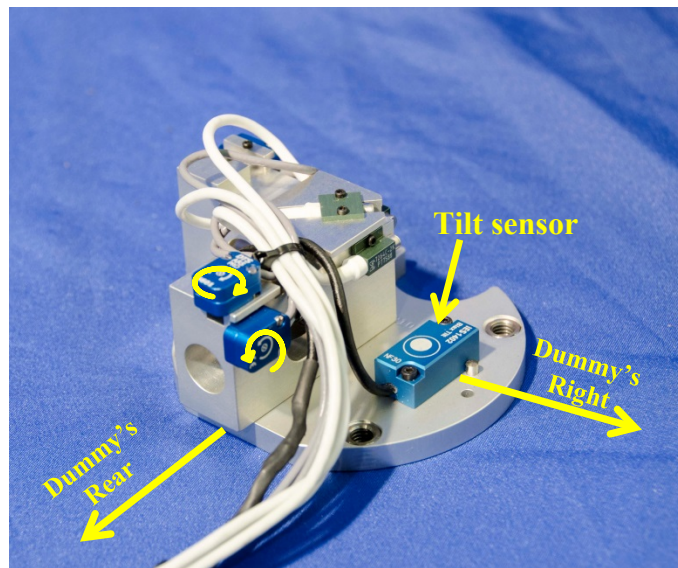

Figure 3-4. Head angular rate sensors installed
- 3.2.2.1 The 7 accelerometer-array fixture (472-1212) holds three angular rate sensors (Figure 3-4); mount each sensor to the fixture using two M1.4 x 0.3 x 8 Cheesehead Screws.
- 3.2.2.3 Attach the Head Tilt Sensor (SA572-S44) to the Head Accelerometer Mounting Plate (472-1210) using two M2 x 0.4 x 12 SHCS (Figure 3-4). A dowel pin ensures that the proper position of the tilt sensor unit.